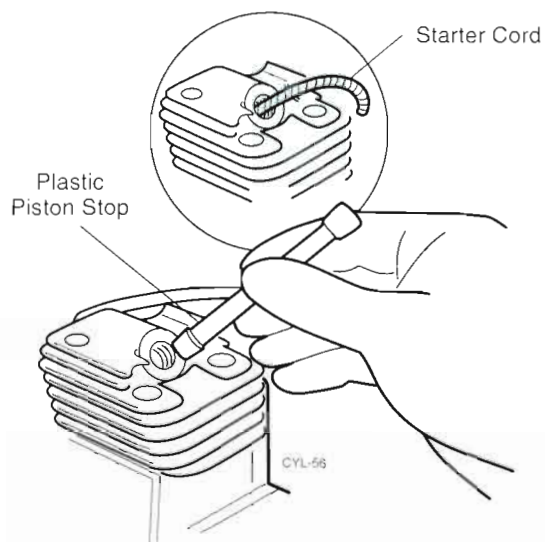

Figure 6.7 Locking the Crankshaft
STEP 4. Lock the engine crankshaft by removing the spark plug and then inserting a plastic piston stop or length of starter cord through the spark plug hole (Figure 6.7).
STEP 2. Lock the engine crankshaft by removing the spark plug and then inserting a plastic piston stop or length of starter cord through the spark plug hole (Figure 6.7).